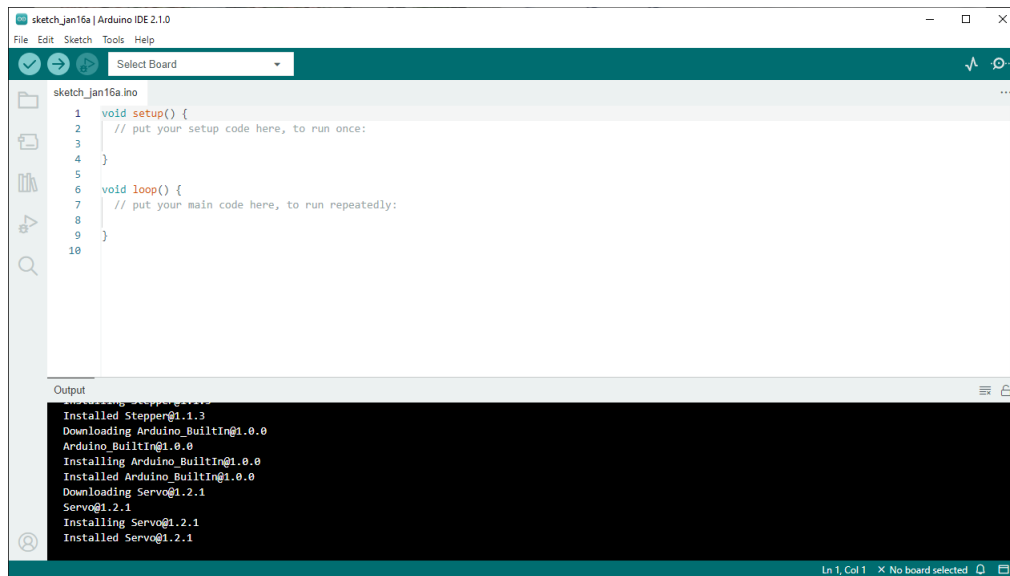

Figure 1.1: This is what the Arduino IDE should look like when it loads.
5. It should load up with a window that looks like Figure 1.1.
6. It should load up with a window that looks like Figure 1.1.